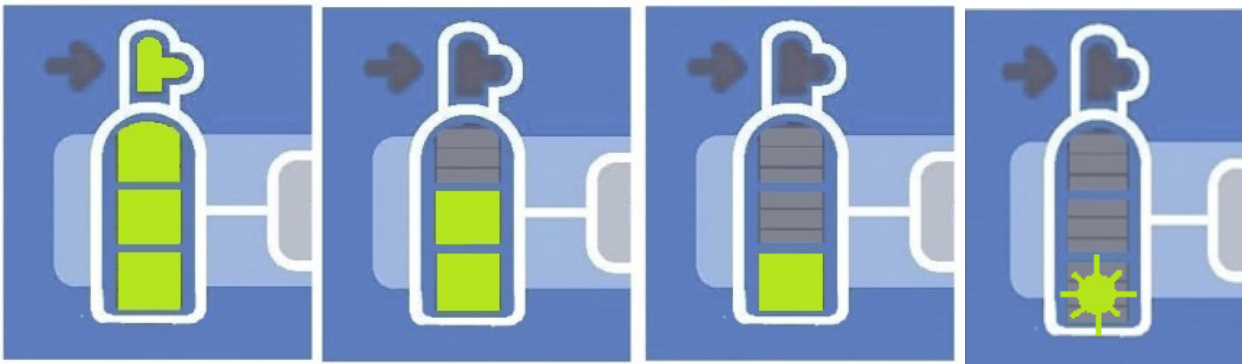

Figure 12: N₂O Gauge Indicators
- Meaning of gas gauge indicators seen in Figure 12